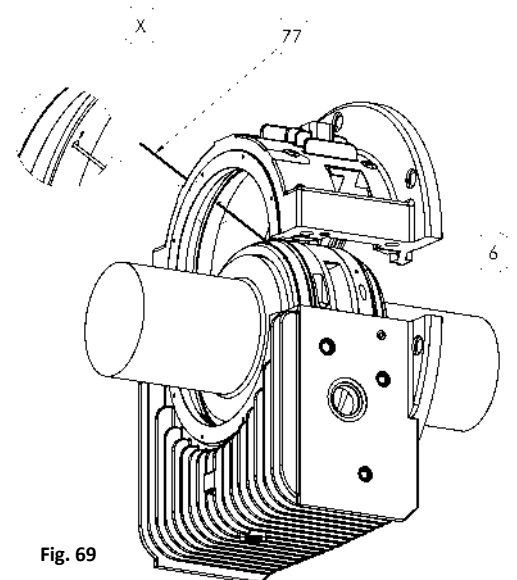

Fig. 69
- After mounting the top half of the shell (6), Insert the thermo-sensor cable (77) into the corresponding channel in the upper half of the shell (fig. 69).
- Move the housing until close to the shell. Insert the cable of thermo-sensor through the tapped hole (X) on the top half of the housing.
- Screw the thermo-sensor head block (72) with copper ring (73) or by a cable gland into the tapped hole (X). Use a Teflon tape or sealant compound